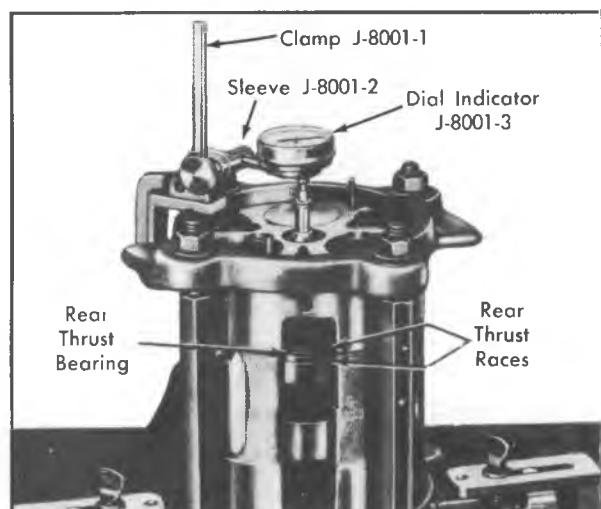

Fig. 43--Gaging Rear Thrust Race
20. Mount Dial Indicator J-8001-3 on edge of Compressing Fixture J-9397 with Clamp J-8001-1 and Sleeve J-8001-2 (Fig. 43). Position Dial Indicator on rear end of shaft and adjust to "zero".